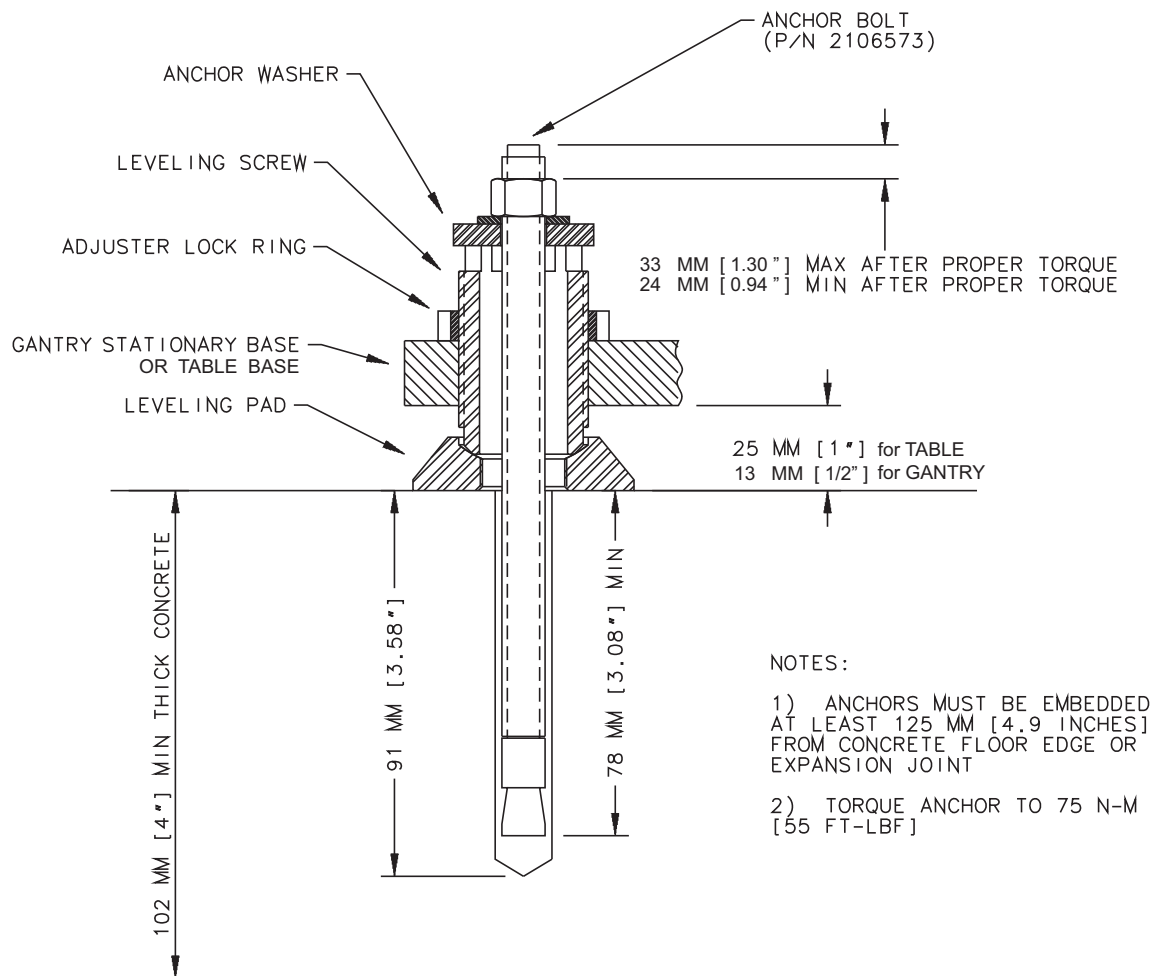
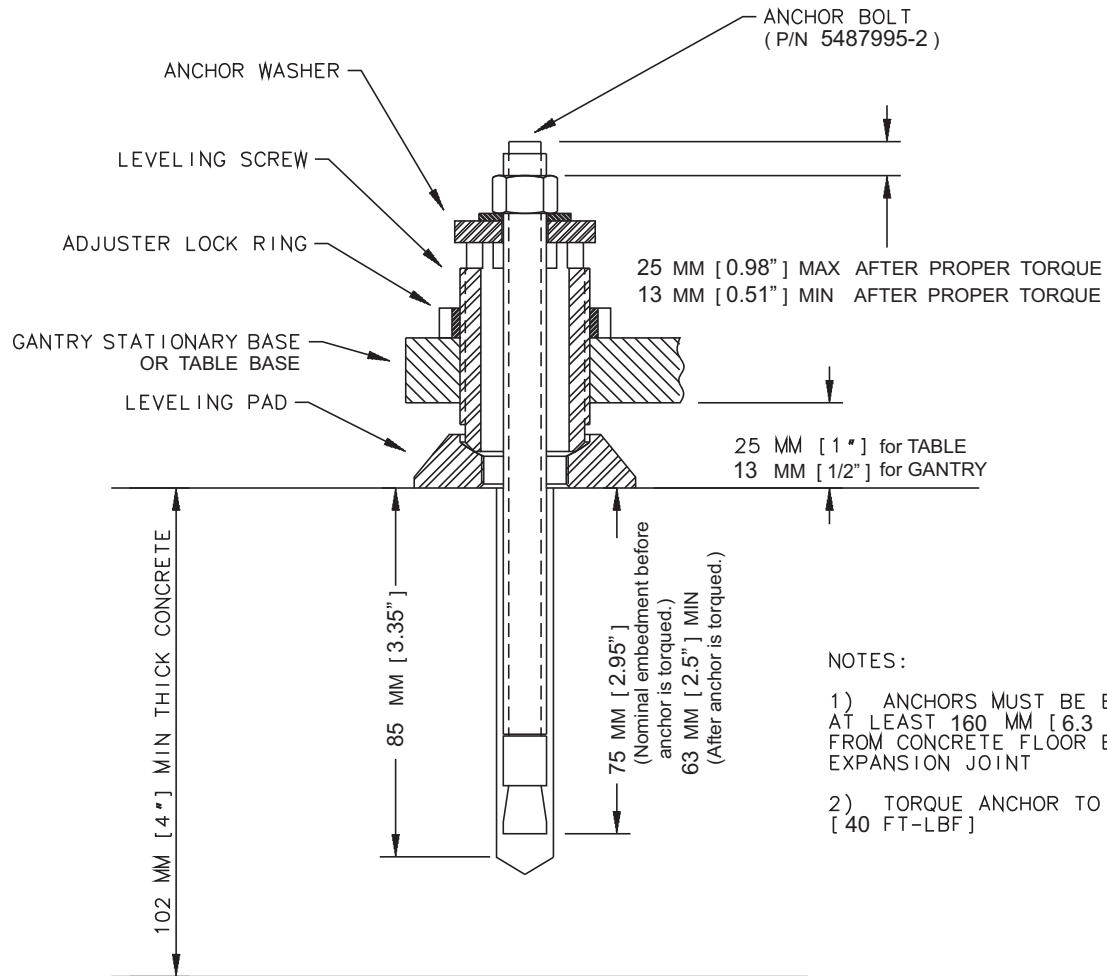

Figure 8-16 Gantry and Table Anchoring with 2106573 (8 in.) Anchor Bolt
Figure 8-17 Gantry and Table Anchoring with 5487992-2 (7 in.) Anchor Bolt
Table 8-3 lists the specifications of GE-supplied anchors for the system. There are two types of anchors used in this product depending on manufacturing date. Both anchors can be used for anchoring of Gantry, GT1700V and VT2000 Table. However VT2000X Table (675lbs) Table must use 2106573 (8 in.) anchor. For a detailed view, including dimensions and additional specifications, see Figure 8-16 of this section.
- Any anchors showing more than specified length of thread above the torqued nut (see Figure 8-16 and Figure 8-17) requires the installation of a second anchor in the closest adjacent mounting location. The second anchor shall meet the same requirements in Table 8-4.
- Non-seismic installations must use a minimum of four (4) anchors to mount the gantry and four (4) anchors to mount the table.
Note: The table does not have the Adjuster Lock Rings shown in Figure 8-16 of this section.